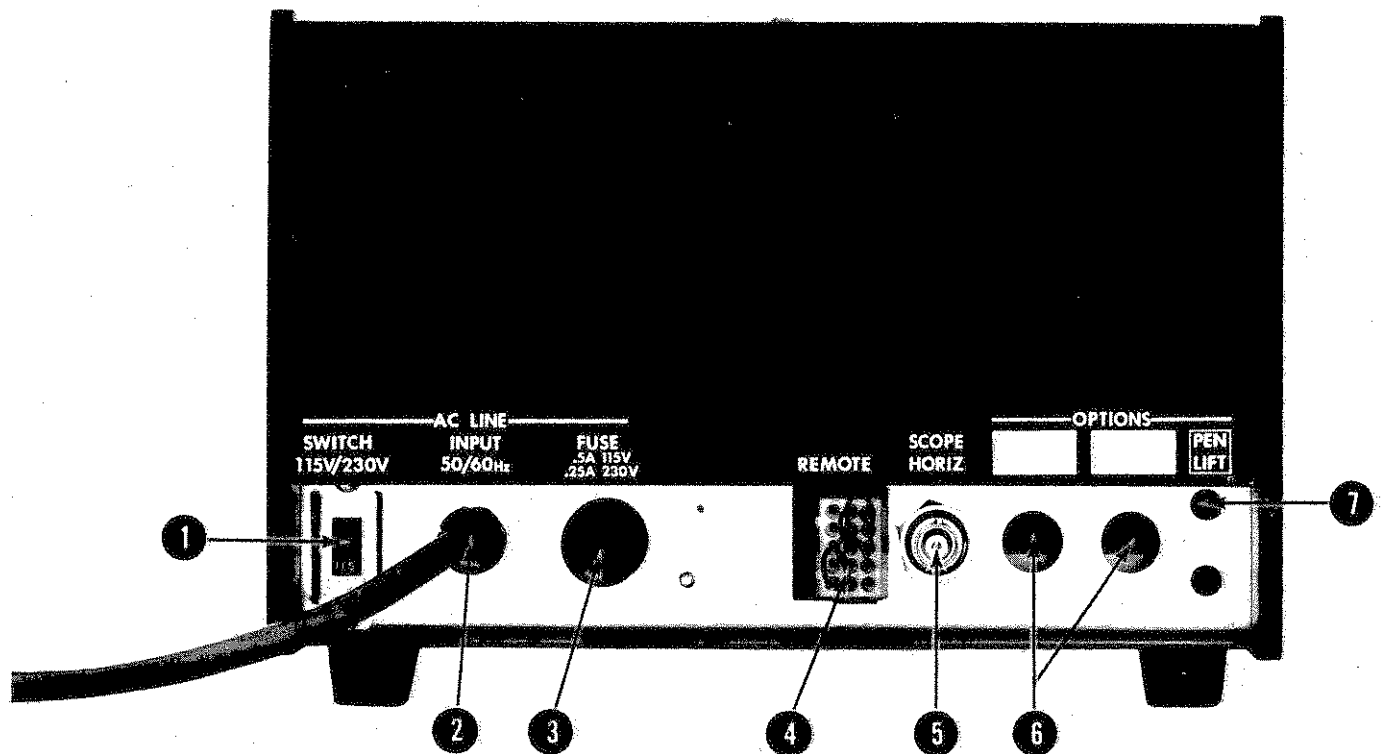

Figure 3-2. Rear Panel
3.3 DESCRIPTION OF REAR PANEL (Refer to Figure 3-2 for location)
- ① SWITCH 115/230V — Selects 115 or 230 V line voltage.
- ② INPUT 50/60Hz — 3 prong AC plug provides connection to AC mains.
- ③ AC LINE FUSE — 0.5A for 115 V AC or 0.25A for 230 V AC.
- ④ REMOTE Jack — Provides connection for programming of frequency, sweep width and RF output level. (See paragraph 3-6 for detailed instructions). This jack is supplied with a mating "jumpered plug" which provides Front Panel control.
- ⑤ SCOPE HORIZ. Jack — BNC jack provides connection to (X) axis of oscilloscope or plotter. This connector is in parallel with the SCOPE HORIZ. connector located on the Front Panel.